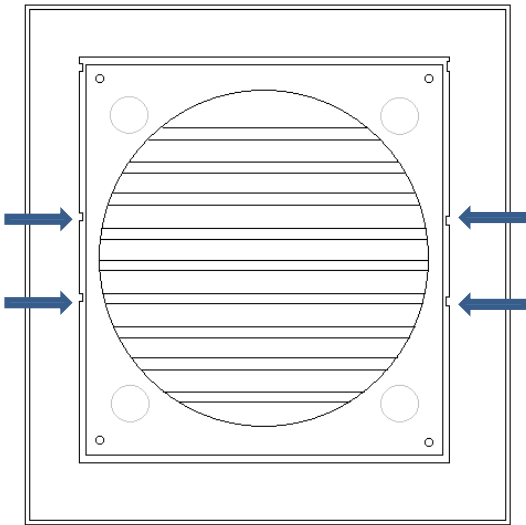

Fig.3
2. Carefully unclip the grille plate from the back plate by pushing in the clasps that are located on the reverse of the grille either side the spigot, avoiding damage to the louvres and fly screen – see Fig.3 below.